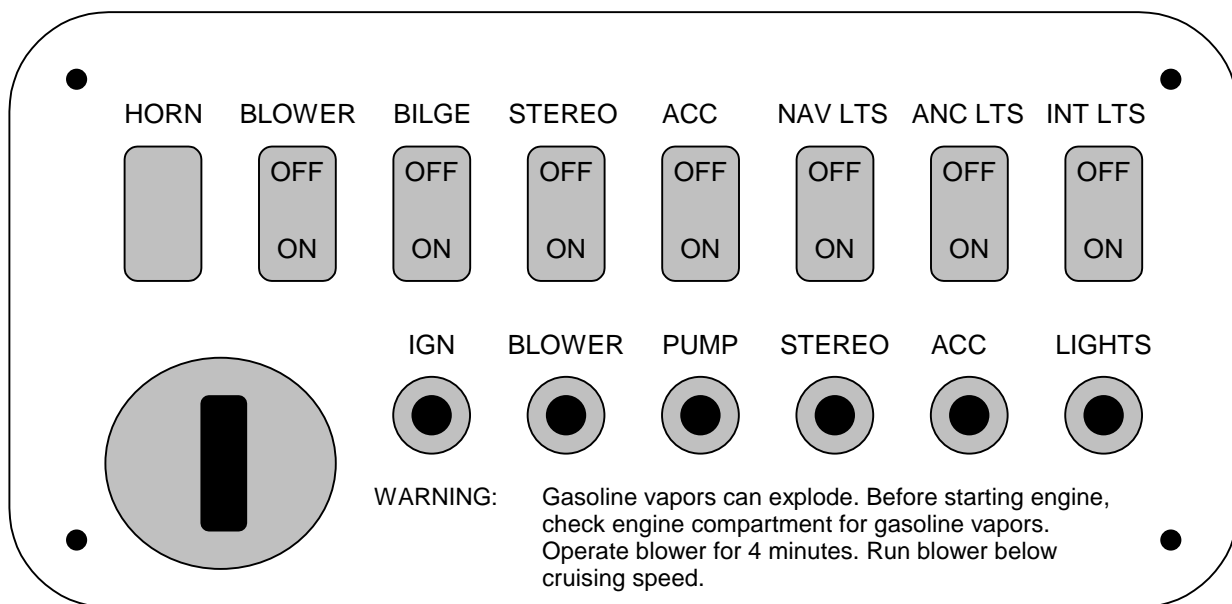

Figure 1 – M.E.M.S. Control Panel
M.E.M.S. Control Panel (Figure 1)